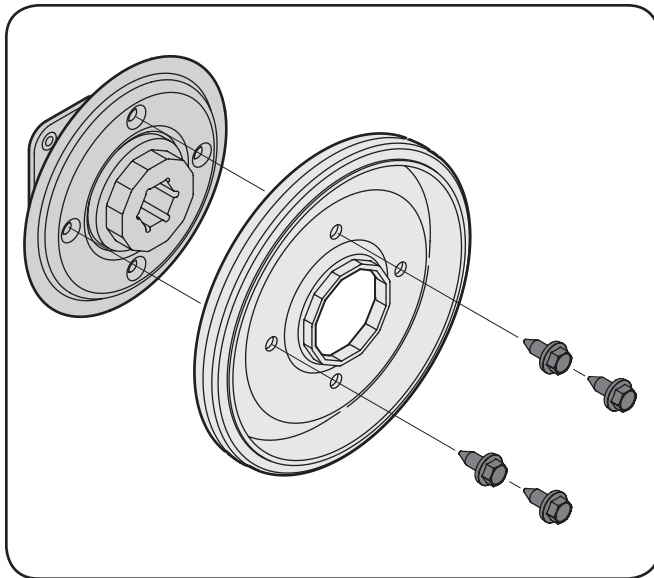

Figure 7-11
7. Remove four screws securing the friction wheel to the hub assembly (refer to Fig. 7-11). Discard old friction wheel.
8. Reassemble the new friction wheel onto the hub assembly, tightening the four screws in rotation and with equal force. It is important to assemble the friction wheel symmetrically for proper functioning. Refer to Fig. 7-11.